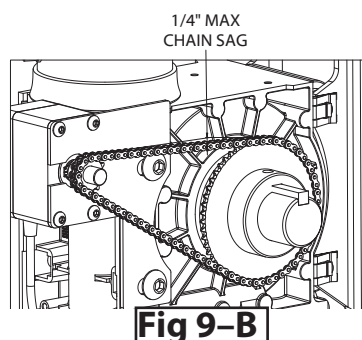

Fig 9-B
- Check chain tension, max sag is 1/2", **Fig. 9-B**.